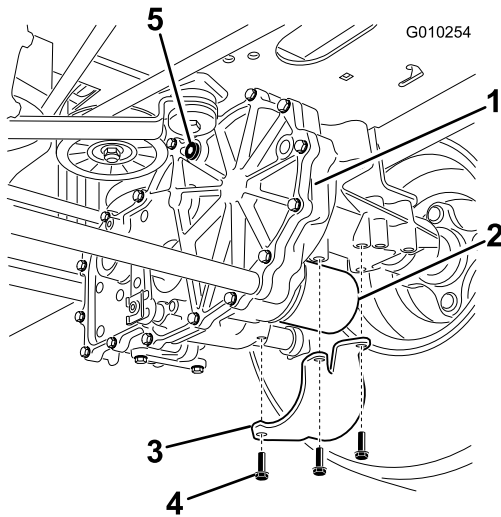

Figure 49
2. Locate the filter and guards on each transaxle drive system (Figure 49). Remove three screws securing the filter guard and guard.